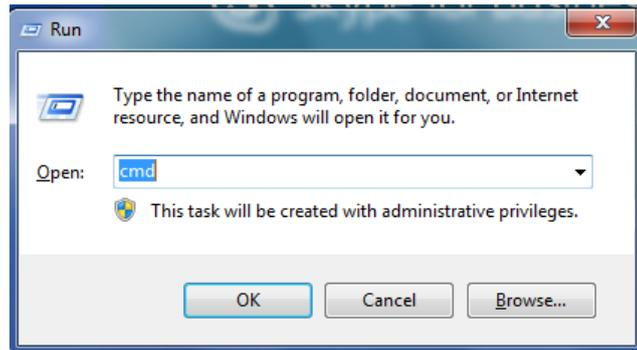

Figure 3-23 Run window
1) Press the “win” + “R” button at the same time to open the “Run” window and enter “cmd” as shown in the Figure 3-23: